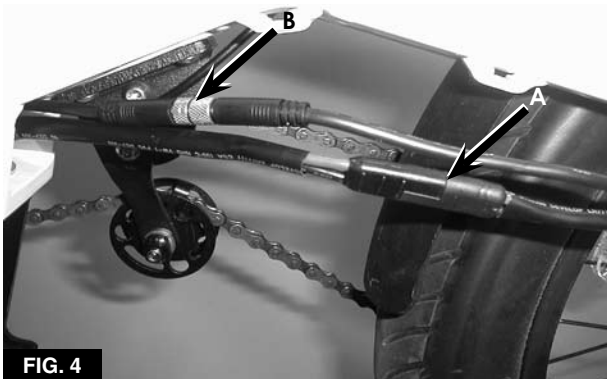

FIG. 4
4. Disconnect the halves of the motor power connector (A, **Figure 4**). Turn out the lock on the controller signal connector (B), and disconnect the connector halves.
f. Slip a piece of heat shrink tubing over the motor power connector (A, **Figure 4**), and then connect the connector halves. Use a heat gun to shrink the tubing.
6. Insert a lever through a strap in the battery (A, **Figure 4**).
2. Connect the main battery connector (B, **Figure 4**) and the charger port connector (C) to their mates from the switch module. The 3-pin connector (D) is not used in the A2B Metro.